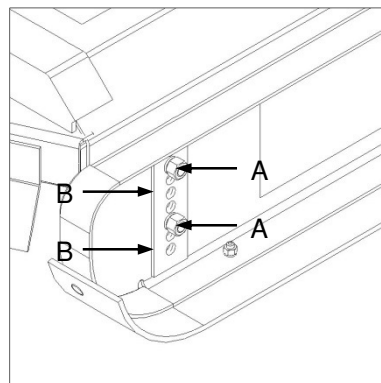

Fig. 5
- ✔ To set working height on an F80 model implement, remove the side panel retaining nuts (Fig. 5-A) and relocate the side panel position by selecting an appropriate hole position (Fig. 5-B). Ensure the implement is level by selecting similar hole positions at each adjustment point.
- ✔ Om die werkshoogte van 'n F80 model implement te verstel, verwyder die sypaneel klemmoere (Fig. 5-A) en verskuif die sypaneel posisie deur die geskikte gat posisie te kies (Fig. 5-B). Maak seker dat die implement gelyk is deur soortgelyke gat posisies by elke verstelpunt te kies.